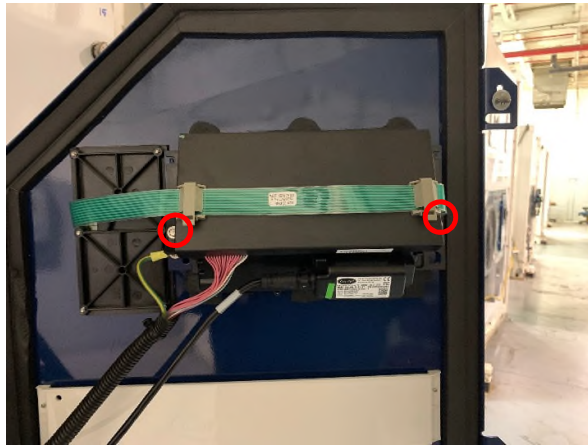

Figure 3: Module Installation
7. Position the Telematics module with the flat side of the module facing towards the door and reinstall the two screws on the display to secure / mount the module in place. See Figure 3.